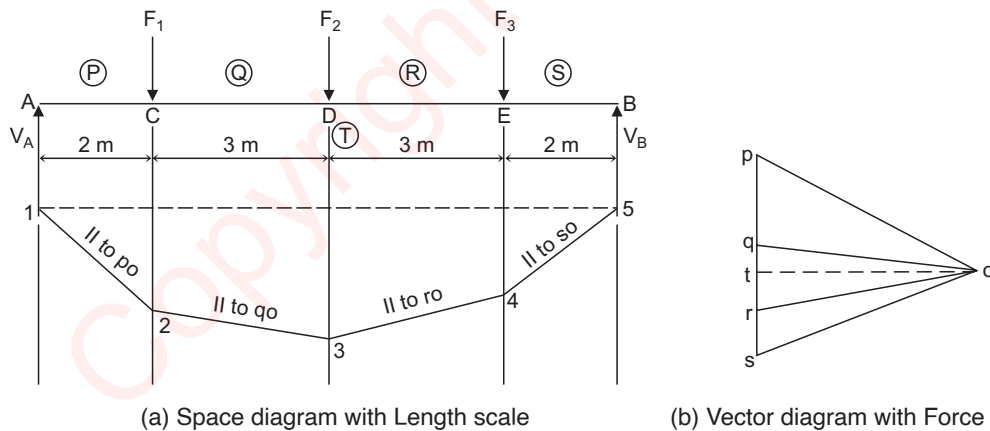

Fig. 2.26: Funicular polygon graphical method
- **Graphical method (Funicular Polygon Method) :** To find out beam supports reactions, follow the following steps: [Refer fig. 2.26]